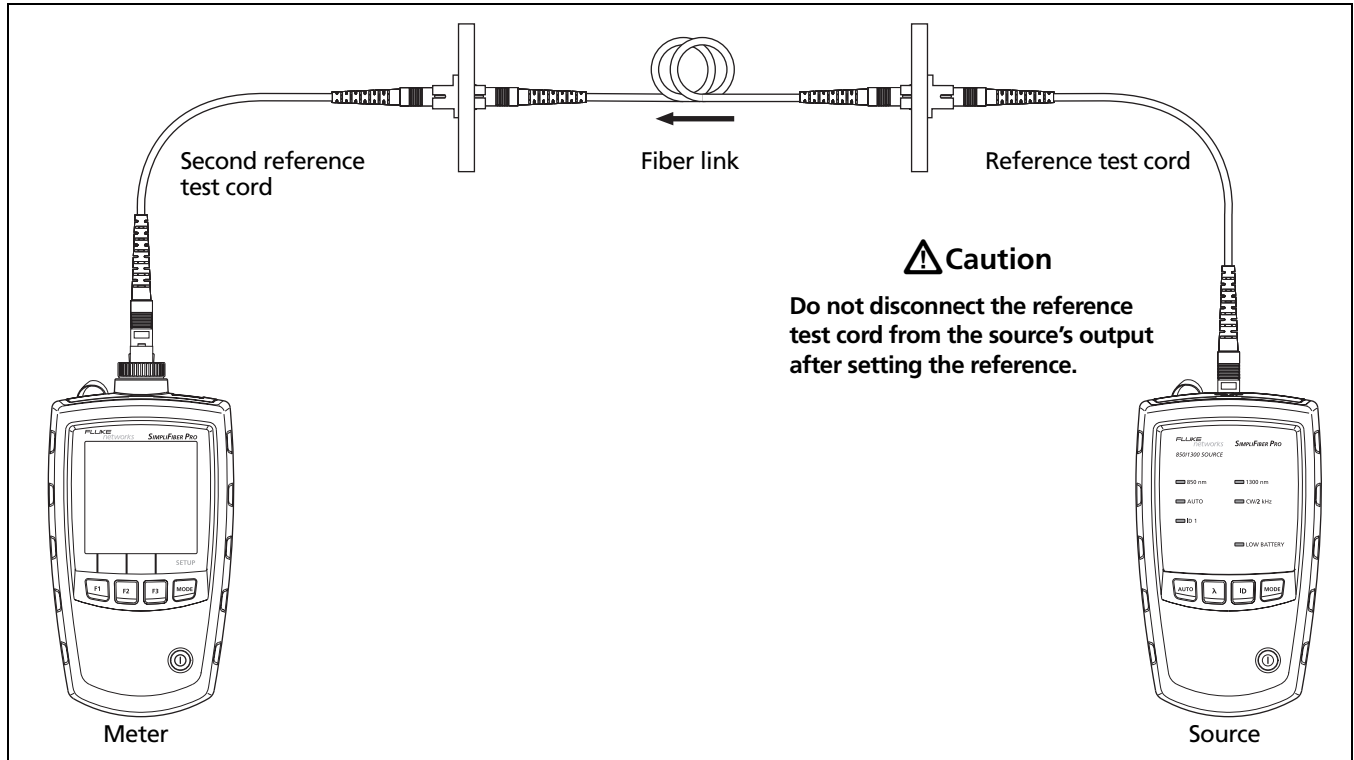

Figure 11. Loss Measurement Connections (Method B)
- 2 Measure loss on the reference test cord as described on page 30. Connect the reference test cord in the place of the fiber link shown in Figure 11.
- 3 Disconnect the reference test cord from the meter; then make the connections shown in Figure 11.